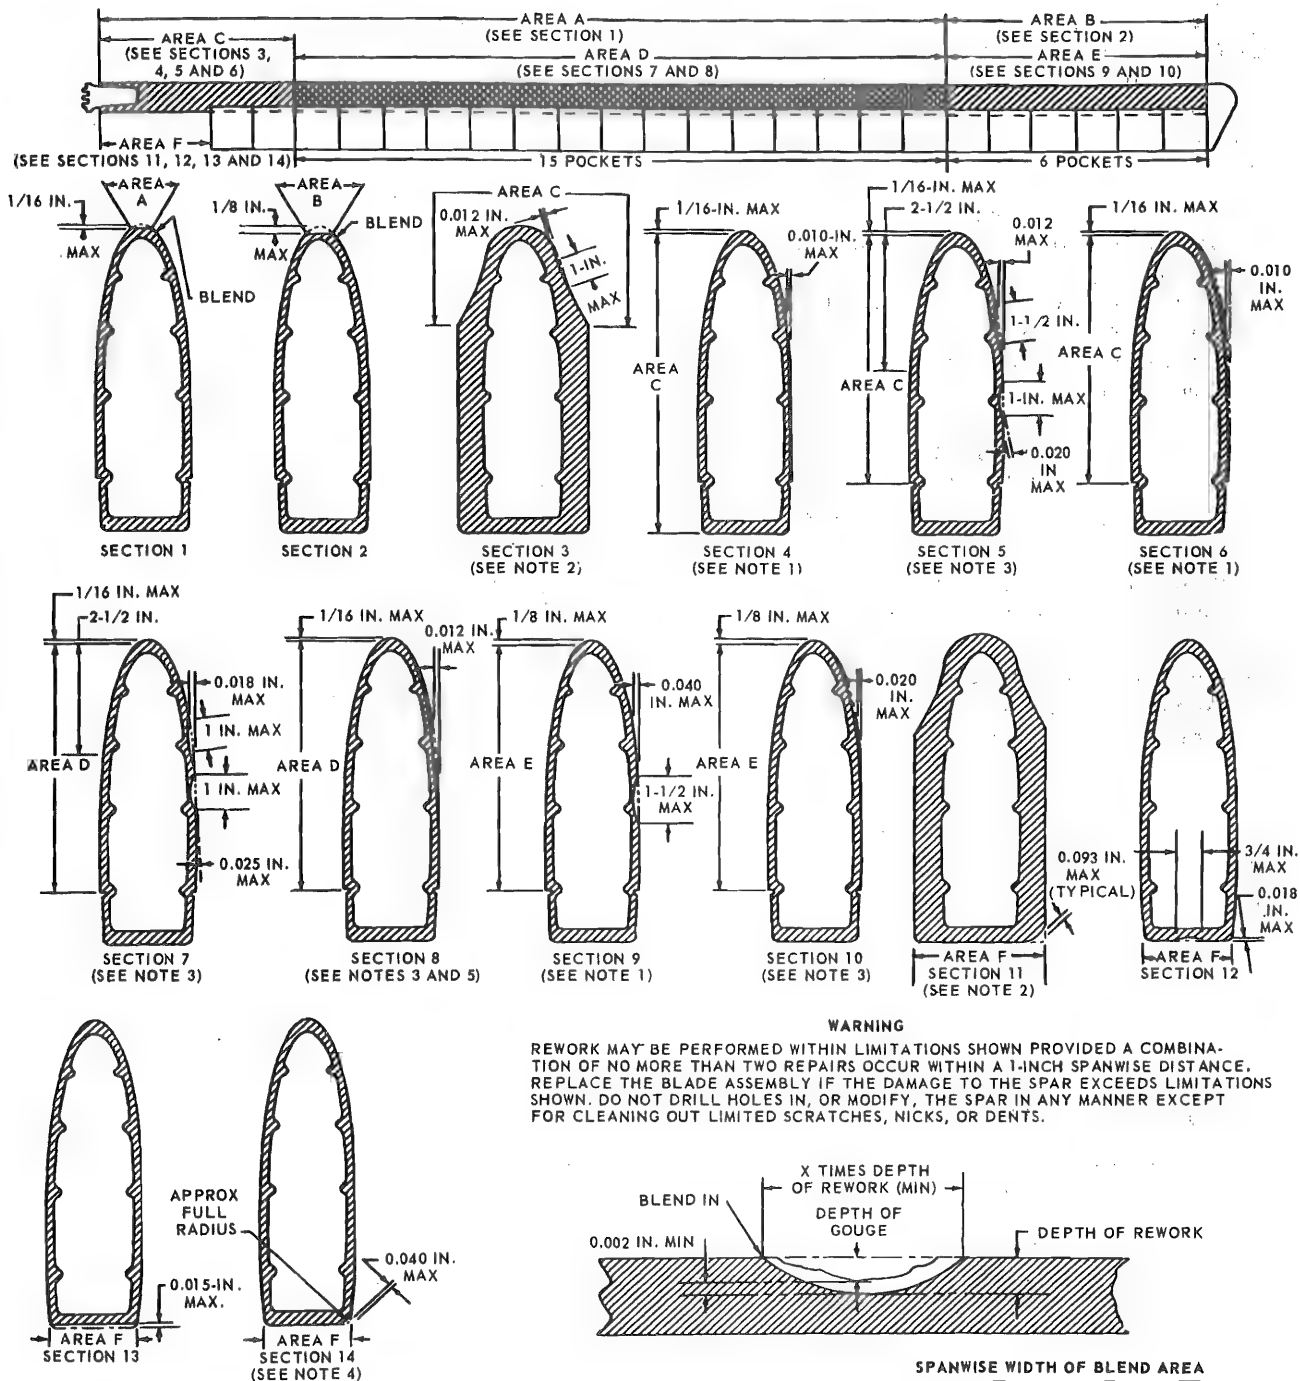

Figure 2-5. Repair Limitations to Main Rotor Blade Spar
j. Any damage to the spar exceeding the limits described in figure 2-5 necessitates replacement of the blade.
a. Very smooth dents in the spar not exceeding 0.010 inch in depth with the exception of area C, figure 2-5.
a. Indentations in the spar exceeding 0.010 inch in depth, but not greater than the limitations shown in figure 2-5.
2-9. GENERAL. Limited nicks, dents, or scratches in the main rotor blade spar may be repaired within certain limits given in figure 2-5.
c. When the damage has been removed completely, carefully measure depth of repair. This must be no deeper than the limits established for the area. (See figure 2-5.)
d. Using No. 240 Carborundum Aloxite Metal Cloth, or fine sandpaper, remove all file marks and blend the area so that depth is at least 0.002 inch deeper than depth of damage. The width of the blend area must be at least 10 times the depth of the final rework in areas A and B, and at least 30 times the depth of the final rework in areas C through F. (See figure 2-5.)